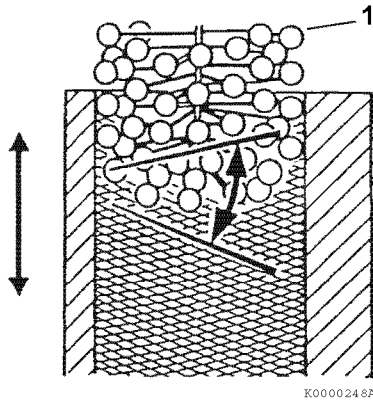

Figure 6-67
*Note: When honing a cylinder, with either a ridged hone or a ball hone (1, **Figure 6-67**) move the rotating hone up and down in the cylinder bore to accomplish a 30 to 40° crosshatch pattern (**Figure 6-67**). This will provide the ideal surface for the proper seating of new piston rings.*